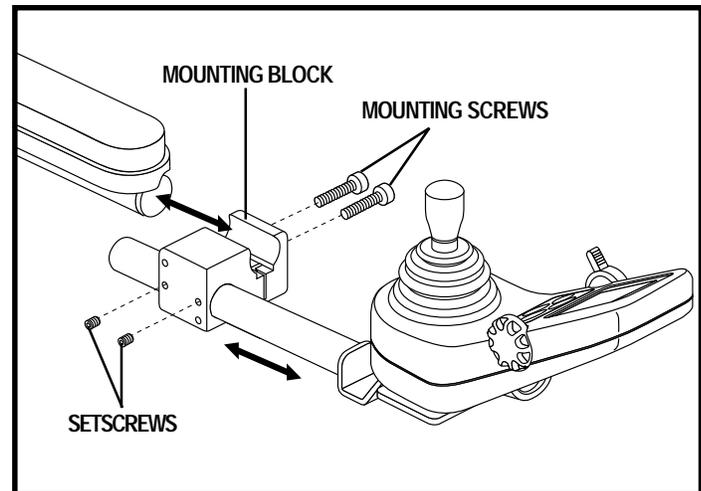

Figure 19. Adjusting Controller Position (Mounting Block)
**NOTE:** If your power chair is equipped with a Specialty Seat, Synergy Seat, or TRU-Balance Power Positioning System, loosen the setscrews in the mounting block, slide the controller in or out to the desired position, then tighten the setscrews. See figure 19.
5. Loosen the mounting screws in the controller mounting block. See figure 19.